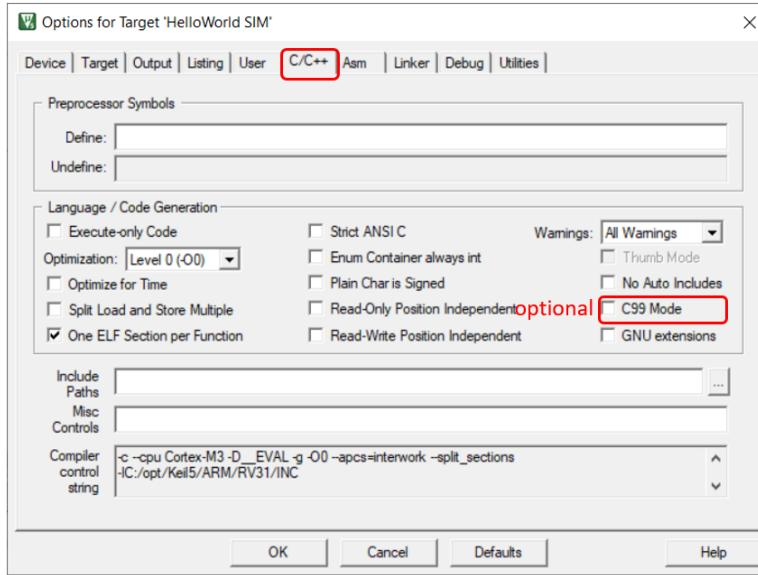

Figure 8.13: Keil IDE: Target Options C/C++ Tab Configuration
2. Configure the C/C++ tab as shown in Figure 8.13. We do not need c99 for this example. So we leave it unchecked.